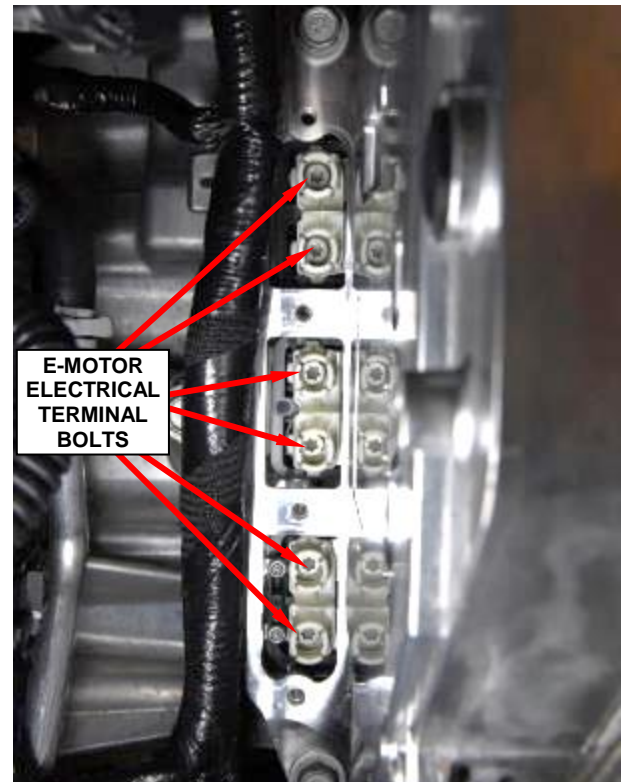

Figure 34 – E-Motor Terminal Bolts
- 60. Loosen the six captured e-Motor electrical terminal bolts to prepare for PIM removal (Figure 34).
4. Tighten the six captured e-Motor electrical terminal bolts to 11 N·m (97 In. Lbs.) (Figure 34).